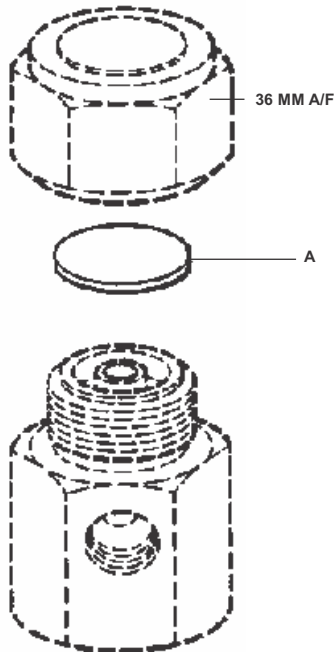

Figure 3: Parts Available as spares (Heavy outline) for FMTD25
9. Available Spares: [Refer figure 3]